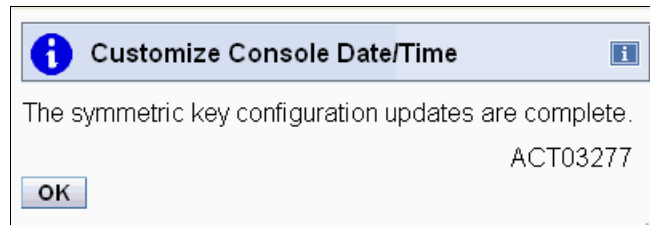

Figure 9-17 HMC: Customize Console Date and Time Completed message for symmetric key configuration
- A completion window opens (Figure 9-17). Click **OK** to return to the Configure NTP Settings window.